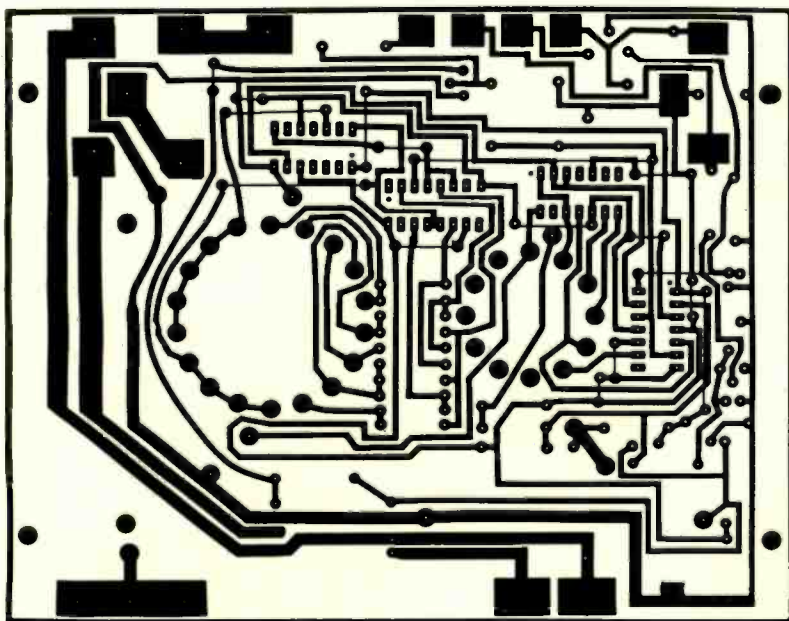

FIG. 6—PATTERN FOR THE PC BOARD. It is 6 inches wide and 4 1/4 inches high overall. Use it to make photographic copy for your board.
MISC: 4 1/4" x 6" PC board (See text and Fig. 3, 4 and 5), case, bottom plate, end brackets (2); switch hardware; 1 1/4" push-on knobs; dial assemblies including 3/4" knob (2), (See Fig. 6 and 7); mounting bracket and red filter (APM 1813-27-R5) and socket for pilot lamps (2); 3 prong ac safety outlets (2); PC board mounting brackets (2); Line cord and strain relief; feet (4); 6-32 hardware; Jumpers, sleeving, wire, solder, ground lug, remote control plug and socket, etc. . . .
A printed-circuit board is a must for this project and may be obtained commercially or the pattern in Fig. 6 may be used. Drilling and layout details are given in Figs. 2 and 3. Fig. 4 shows component and wiring locations.